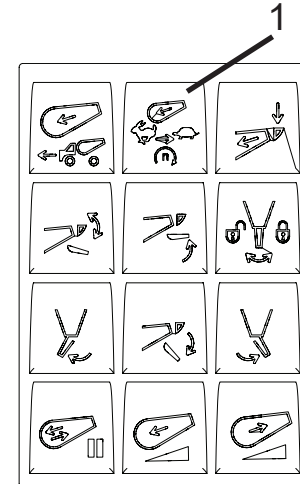

Figure 46
2. Press the MIX button on the optional in-cab keypad (Figure 46, Item 1). The button indicator will illuminate. The MIX icon will display on the drum control on the touch screen monitor.